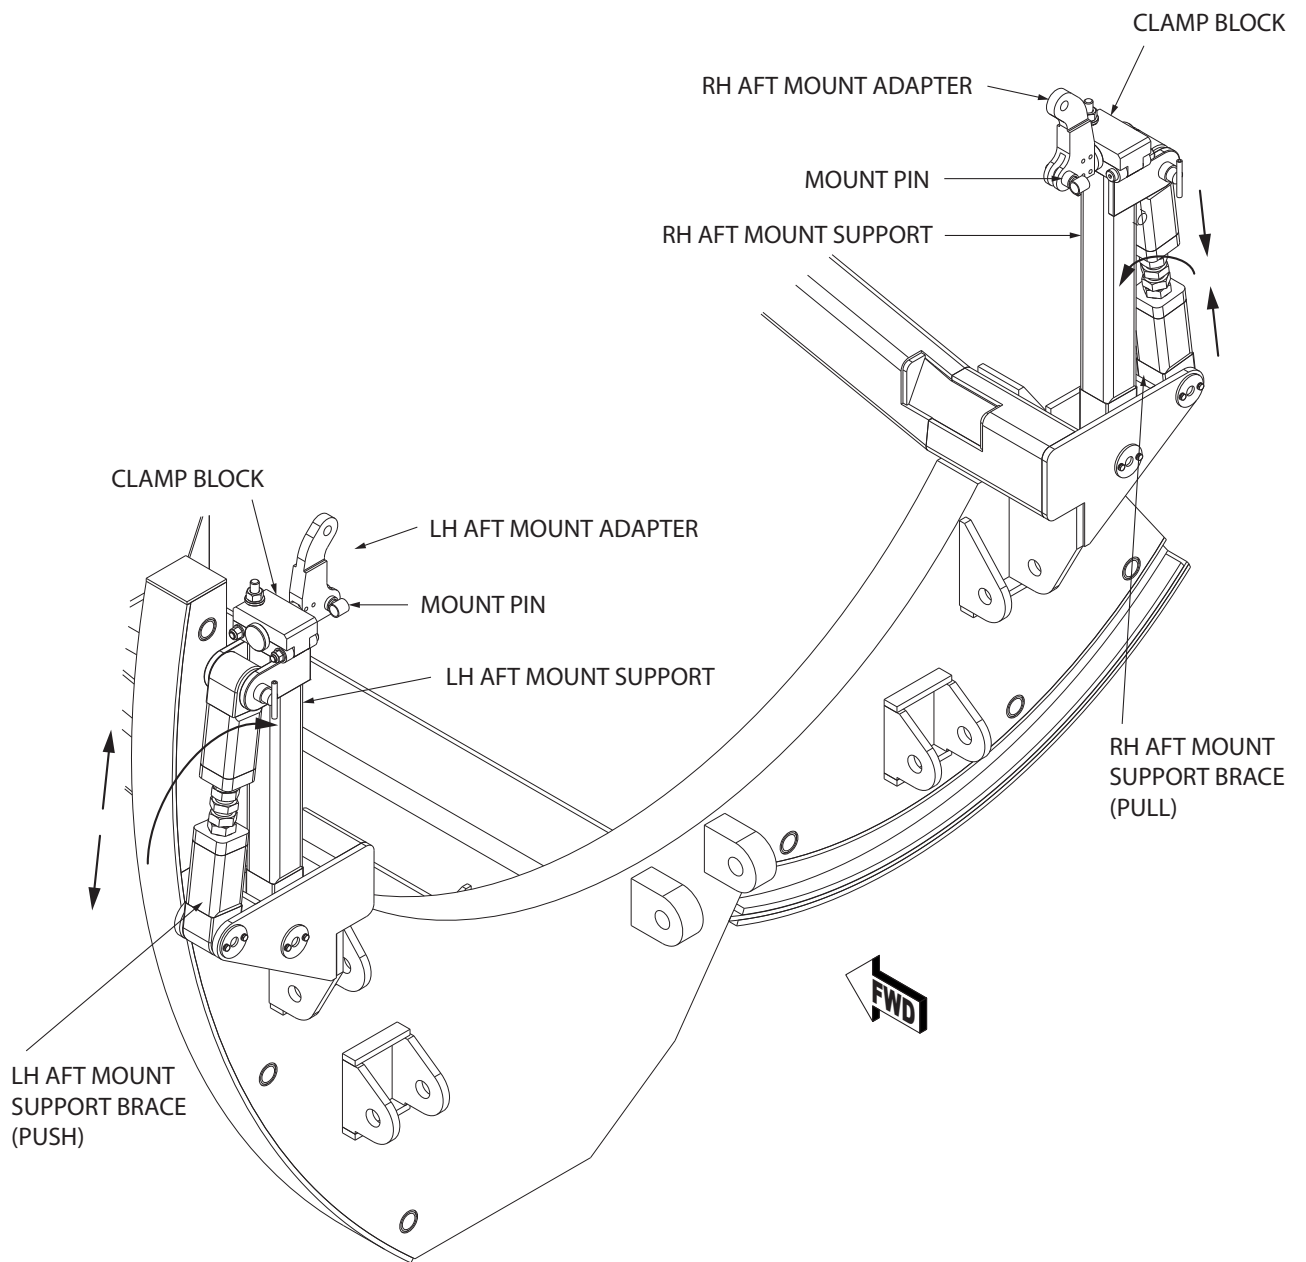

Figure 5.2-3 AFT Mount Installation
- 7) Rotate AFT mount supports up to trunnions. (Figure 5.2-3)
- RH IN Tension (Pull) (Figure 5.2-3)
- LH IN Compression (Push) (Figure 5.2-3)